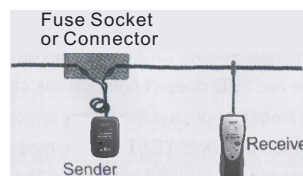

Figure 2
6. If it is difficult or impossible to get the Receiver to pick-up any signal, please increase the sensitivity and try again. For the suspect table place, check it twice. See Figure 2, 3.